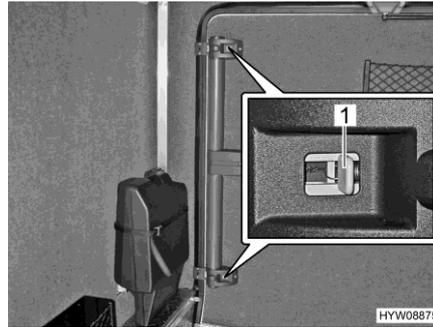

Fig. 55 Garage door (interior emergency release)
- Press the grey slider (Fig. 55,1) of the upper and lower lock toward the centre of the door.